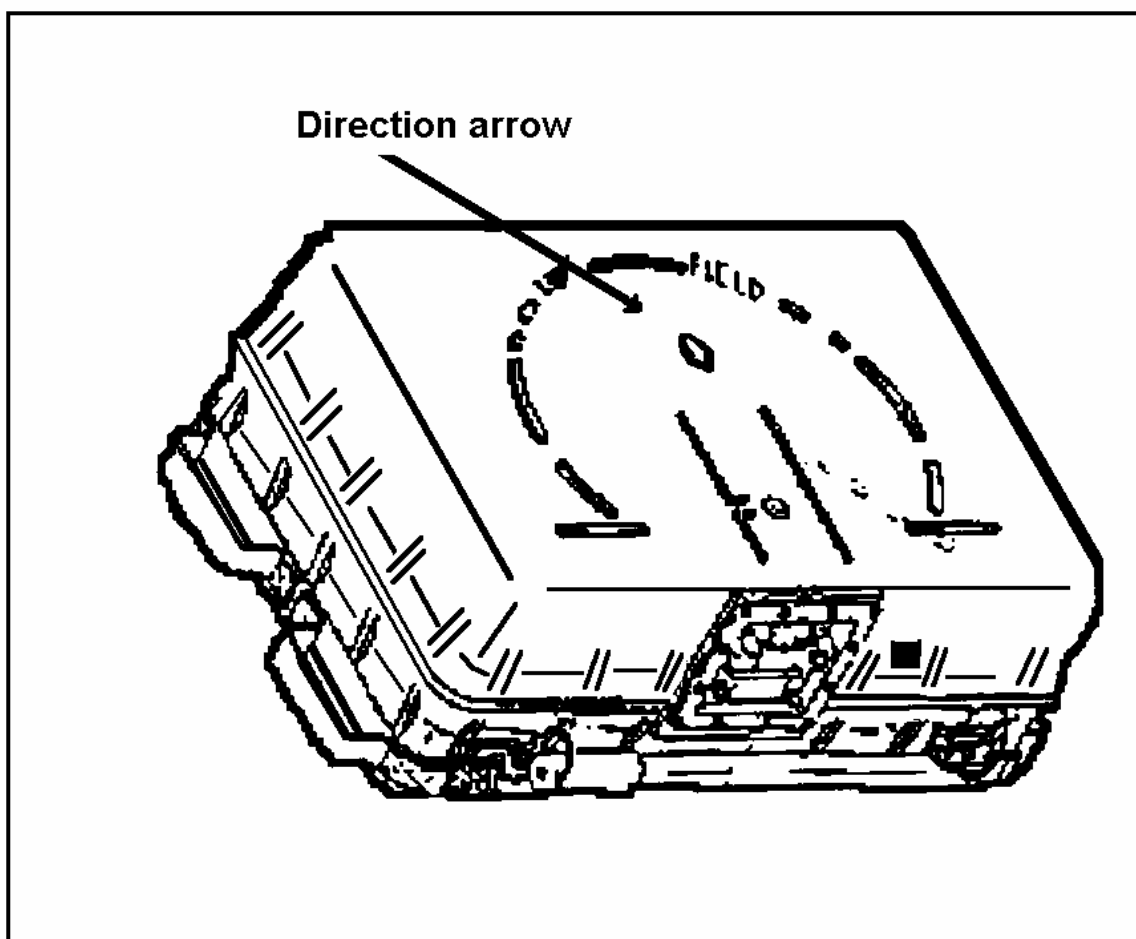

Figure 052-192-1232-1
1. Transport the dispenser to the designated location. Place the dispenser on a solid, flat surface, with the arrow on the top of the dispenser pointing toward the center of the planned minefield location (Figure 052-192-1232-1).